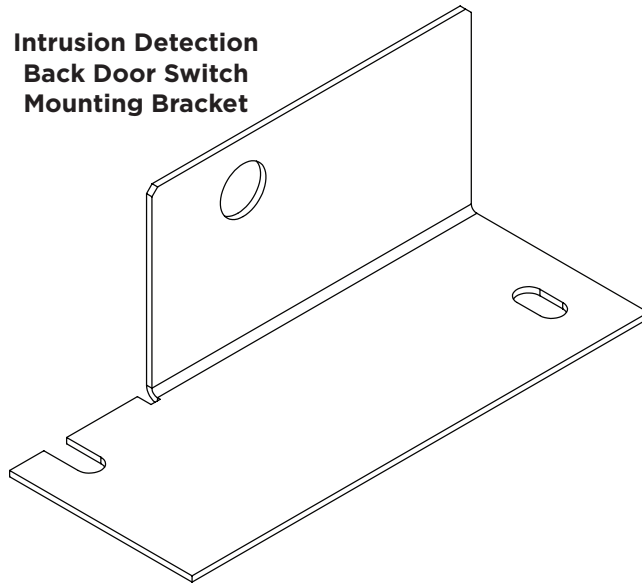

Figure 27 Intrusion Detection Back Door Switch Mounting Bracket
- One back door switch mounting bracket (see detail Figure 27)